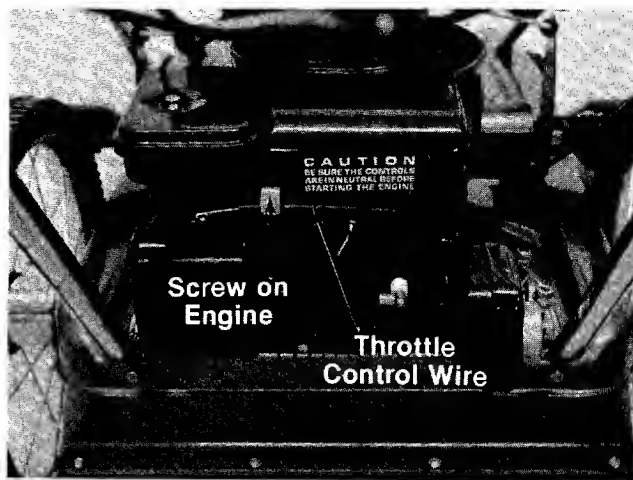

FIGURE 21.
1. Loosen, but do not remove, screw securing throttle control wire assembly at engine. See figure 21.